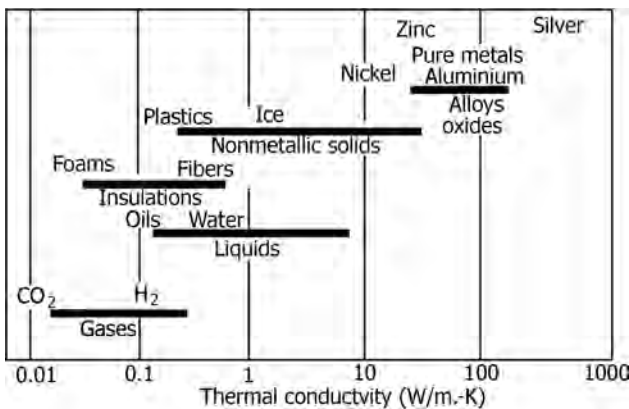

FIGURE 8.8 Approximate ranges of thermal conductivities of materials at normal temperatures and pressures.
- Figure 8.8 illustrates ranges of thermal conductivities of different materials.